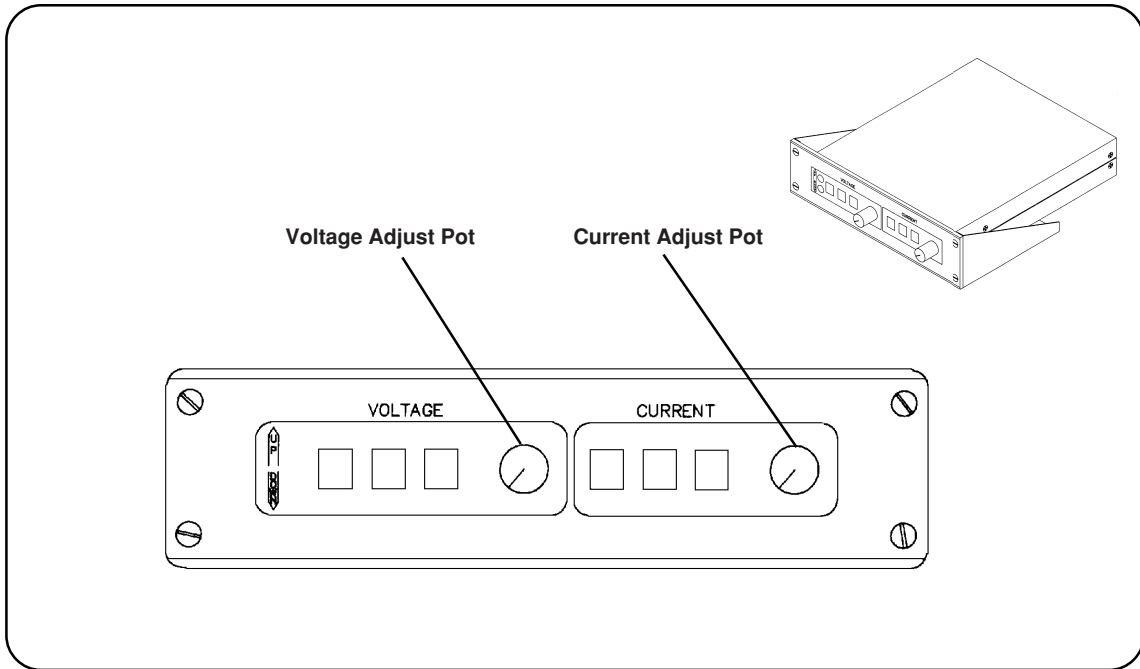

Figure 3-4 Digital Remote (DR) V/C Front Panel Controls and Indicators
### Digital Remote (DR) V/C Module (Fig. 3-4)